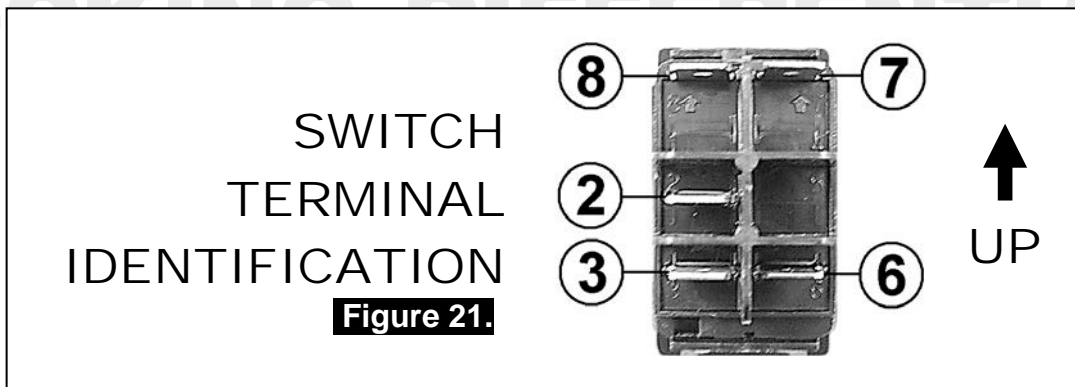

Figure 21.
**NOTE :** Refer to Figure 21. for the correct switch terminal identification and switch orientation.